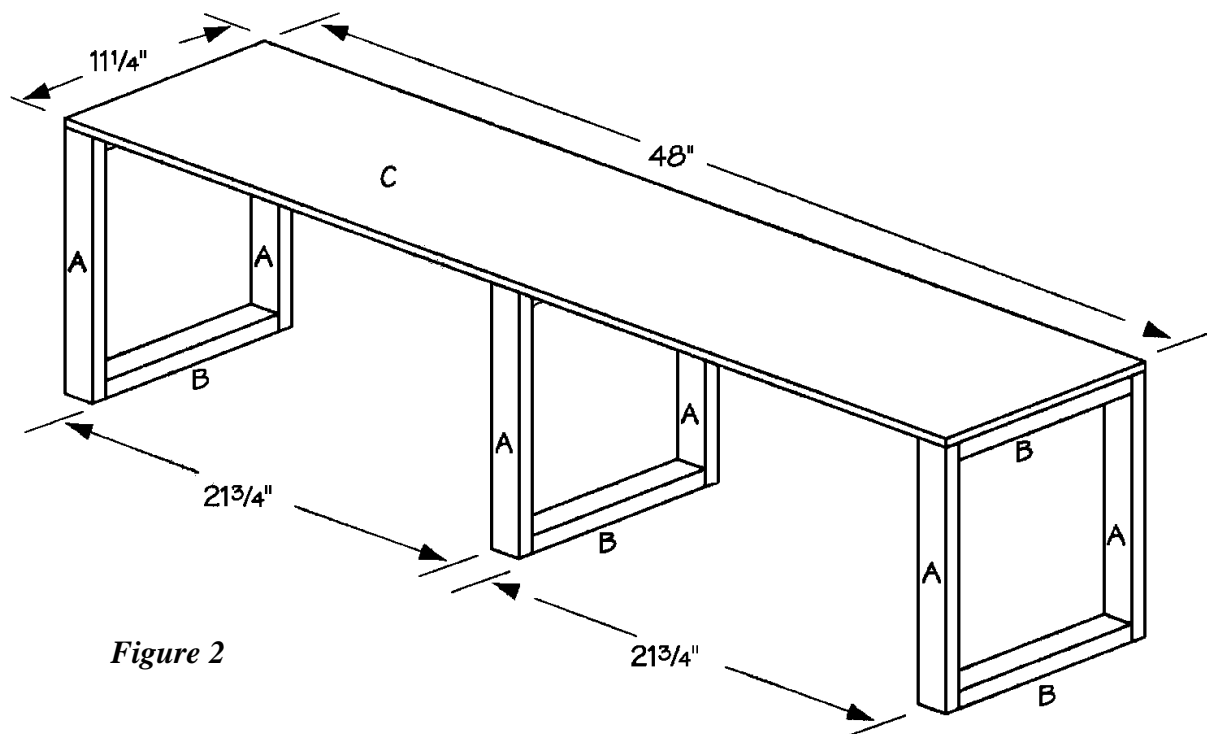

Figure 2
5. Cut two narrow sides (C) of 3/8" plywood, each measuring 11-1/4 x 48 inches. Make certain that you cut the plywood so that the surface design runs along the 48" length.
6. Place the three support assemblies, short inner support (B) side down, on a level surface, parallel to each other and 21-3/4 inches apart. Fit one narrow side (C) over the three support assemblies, as shown in *Figure 2*. The two outer support assemblies should be flush with the ends of the narrow side (C). Apply glue to the meeting surfaces, and screw through the narrow side (C) into the support assemblies, using three 1-1/4" screws on each joint.
7. Repeat Step 2 to attach the remaining narrow side (C) to the opposite side of the three support assemblies.
8. Cut two wide sides (D) from 3/8" plywood, each measuring 12 x 48 inches. Again, make certain that the plywood design runs with the 48-inch length.